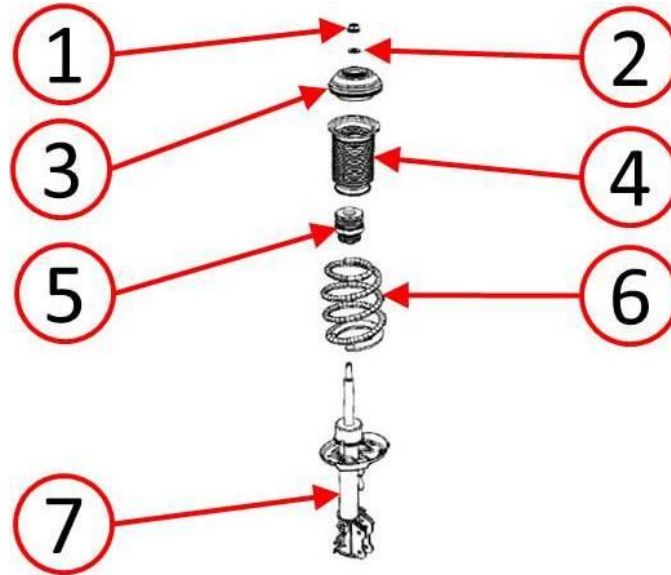

Fig. 1 Strut Assembly
5. Discard the old jounce bumpers (5) (Fig. 1).
6. Assemble the front strut assemblies with the **NEW** jounce bumpers (5) (Fig. 1). Refer to the detailed service procedures available in DealerCONNECT> TechCONNECT under: Service Info> 02 - Front Suspension> Front> STRUT, Suspension, Assembly> Assembly.